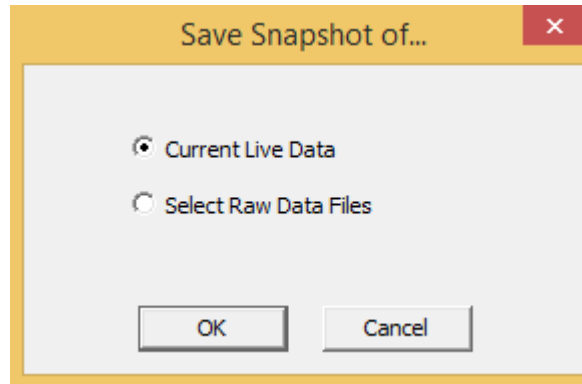

Figure 6.44: Choose between live data and saved raw data.
- The window in **Figure 6.44** will appear requesting the user to select which data to save a snapshot of.